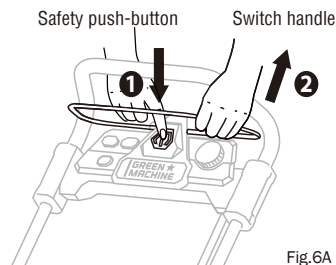

Fig.6A
1. Press the power button and pull the safety control bar upward to the upper handle and keep it held in. (1,2, Fig. 6A)